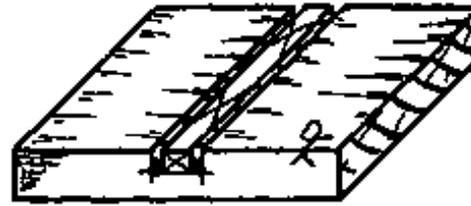

Fig. 4
- Saw the sides of the trench (on the waste side of the lines) down to the gauge lines (Fig. 4)
- Saw the sides of the trench (on the waste side of the lines) down to the gauge lines (Fig. 4).